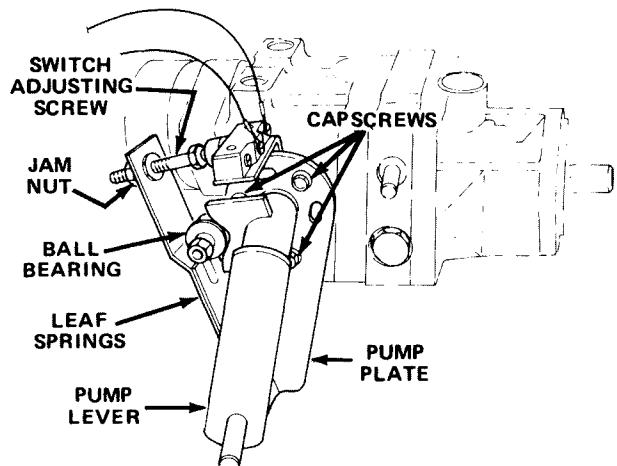

Figure 52
1. Park vehicle on a level surface and turn engine off. Apply the parking brake, tip seat forward, and actuate pump lever (Fig. 52) to insure assembly is properly seated and operating freely. Correct any discrepancy.
6. Because the wheel is rotating, the pump plate must be adjusted. But before adjusting the pump plate, move throttle to SLOW. If wheel is rotating forward, loosen capscrews, and lightly tap bottom of pump plate counterclockwise (Fig. 52). By contrast, tap pump plate clockwise if wheel is rotating backward (Fig. 52). When wheel stops rotating, tighten capscrews holding pump plate against side of transmission. Verify the adjustment with throttle in SLOW and FAST position.
- A. Ball bearing is loose or worn out (Fig. 52).
- F. Weak or damaged leaf springs (Fig. 52). Replace.
2. Actuate the pump lever (Fig. 52) to insure all parts are operating freely and seated properly.
3. Loosen jam nut. Rotate switch adjusting screw (Fig. 52) until there is a gap between head of screw and switch button.